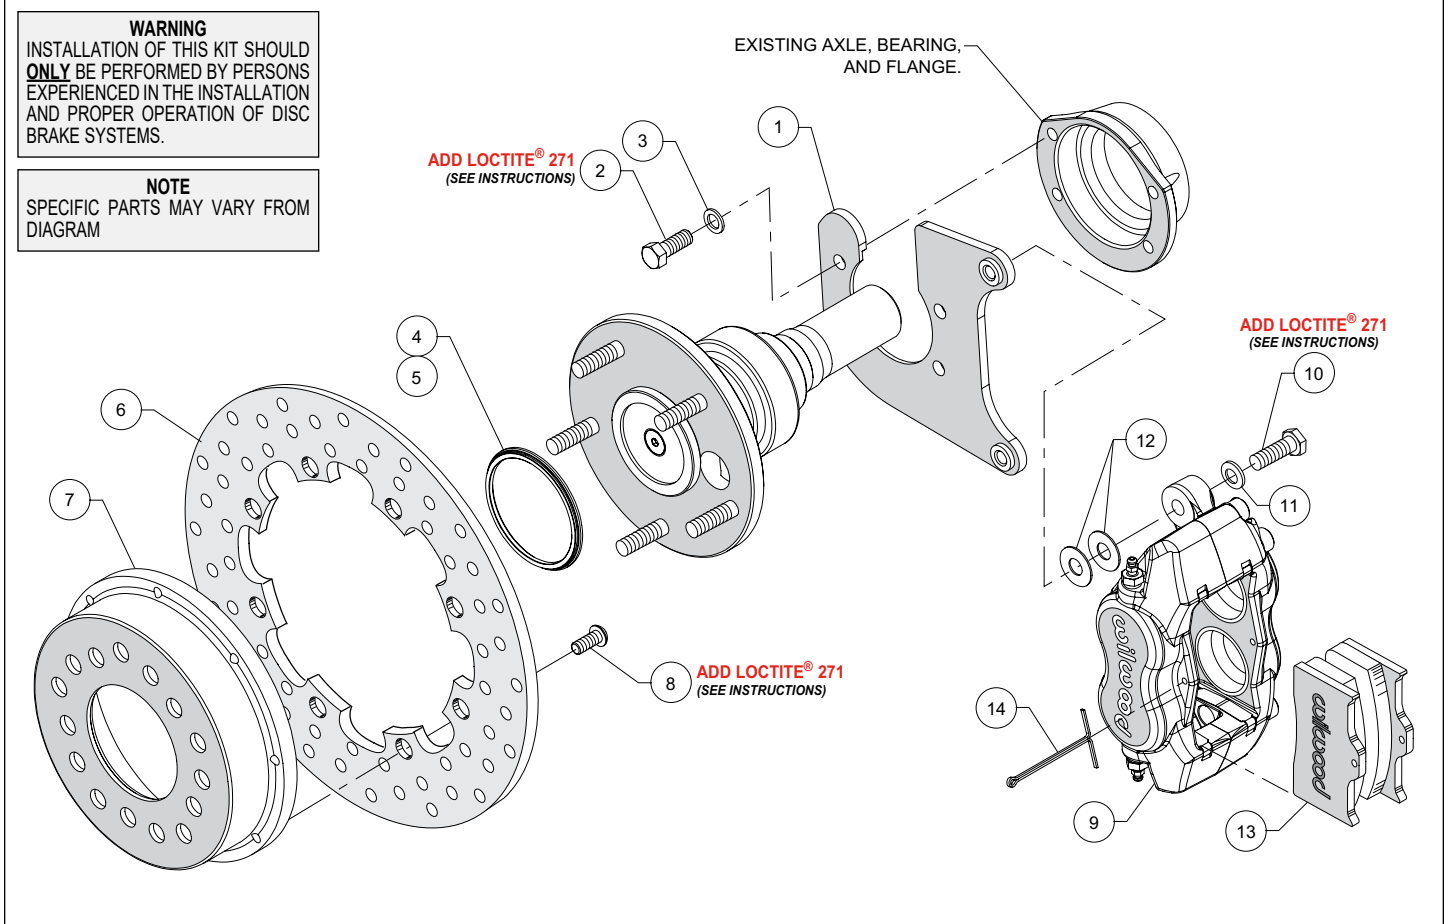
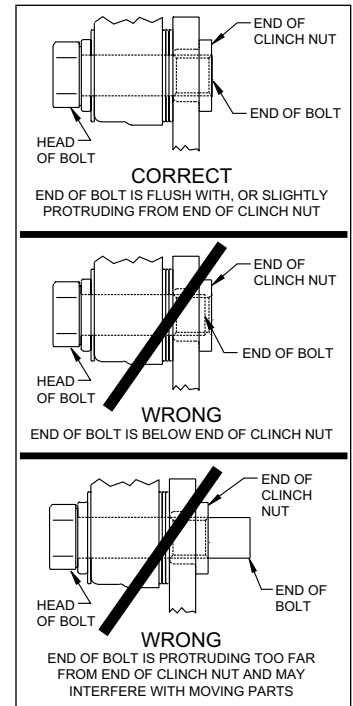

Figure 1. Typical Installation Configuration
Figure 5. Clinch Nut Engagement Diagram
NOTE: Numbers in parenthesis refer to the parts list and Figure 1 on the preceding pages.
CAUTION: All mounting bolts must fully engage clinch nuts. Be sure to check that all bolts are either flush or protruding through flanged side of clinch nut after shimming, Figure 5.
- Orient the caliper mount bracket (1) with the slot for the axle pointing upward, as shown in Figure 1 and Photo 1. Install using bolts (2) and washers (3). Temporarily tighten the mounting bolts. Ensure that the flanged heads of the clinch nuts in the bracket are facing outboard, Photo 1. **NOTE:** The bracket must fit squarely against the axle housing flange. Inspect for interference from casting irregularities, machining ridges, burrs, etc. Remove bolts one at a time, apply red *Loctite*® 271 to threads and torque to 40 ft-lbs.
- Orient the rotor (6) and the hat (7) as shown in Figure 1 and Photo 2. Attach rotor to hat using bolts (8). Apply red *Loctite*® 271 to the bolt threads and torque to 25 ft-lb using a criss-cross pattern.
- Slide the rotor registration adapter (4 or 5, depending on which axle is being used) onto the axle register on the axle flange with the smaller O.D. facing toward the rotor/hat (6/7), Photo 3. Align the correct hole pattern in the rotor/hat with the stud pattern on the axle flange and slide into place, Figure 1 and Photo 4. **NOTE:** The rotor/hat must fit flush against the axle flange or excessive
•**NOTE:** Please reference the caution statement at the beginning of the assembly instructions. Mount the caliper (9) onto the caliper mounting bracket (1) using bolts (10) and washers (11), as shown in Figure 1. Initially place two .035" thick shims (12) on each bolt between the caliper and the bracket, Photo 5. Temporarily tighten the mounting bolts and view the rotor (6) through the top opening of the caliper. The rotor should be centered in the caliper, Photo 6. If not, adjust by adding or subtracting shims between the bracket and the caliper. Always use the same amount of shims on each of the two mounting bolts. **NOTE:** The end of each bolt must be flush with or slightly protruding from the head of the clinch nut, as shown in Figure 5. If necessary place spare shims between washer (11) and caliper mounting ear to achieve the proper clinch nut engagement. Once the caliper alignment and clinch nut engagement are correct, remove the bolts one at a time, apply red *Loctite*® 271 to bolt threads, and torque to 40 ft-lb.
•Install the disc brake pads (13) into the caliper, with the friction material facing the rotor (6), and secure in place using cotter pin (14), Photo 7.